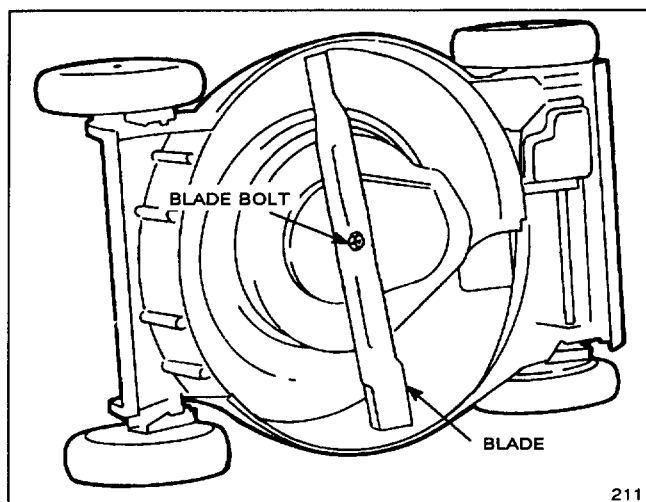

Figure 24
3. Tip mower on its right side (Fig. 24).
5. **REMOVING BLADE**—Grasp end of blade using a rag or thickly padded glove. Remove blade bolt, washer, blade, and blade retainer (Figs. 24 & 26).